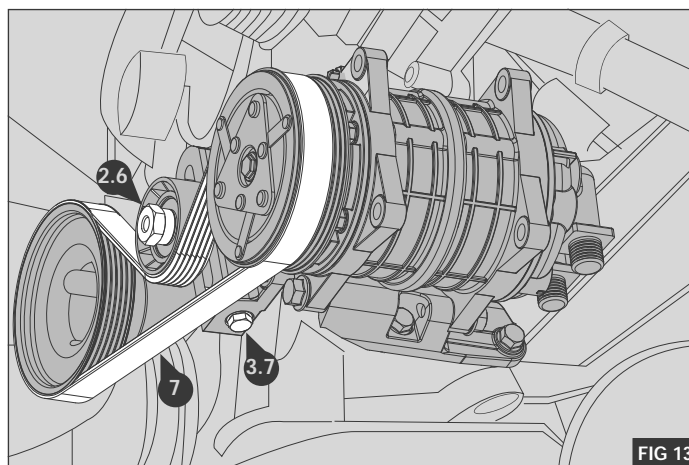

FIG 13
2. Install the supplied compressor drive belt  as detailed in - Fig 13
4. Once the correct tension has been attained, lock the idle pulley assembly with nut  - Fig 13